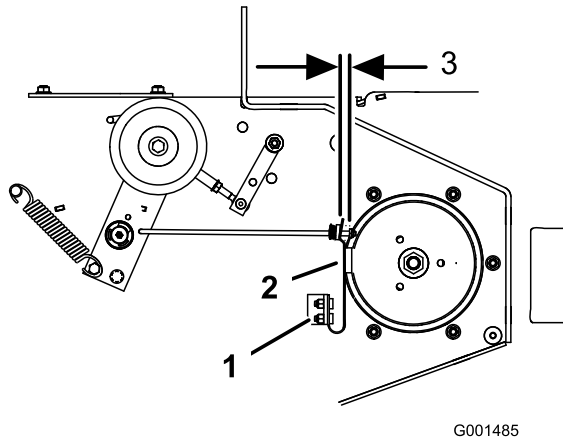

Figure 69
3. If necessary, adjust the spring mounting bolts so that the blade brake pad rubs against both sides of the pulley groove (Figure 69).
- Adjust the nut at the end of the blade brake rod until there is 1/8-3/16 inch (3 mm -5 mm) between the nut and spacer (Figure 69).